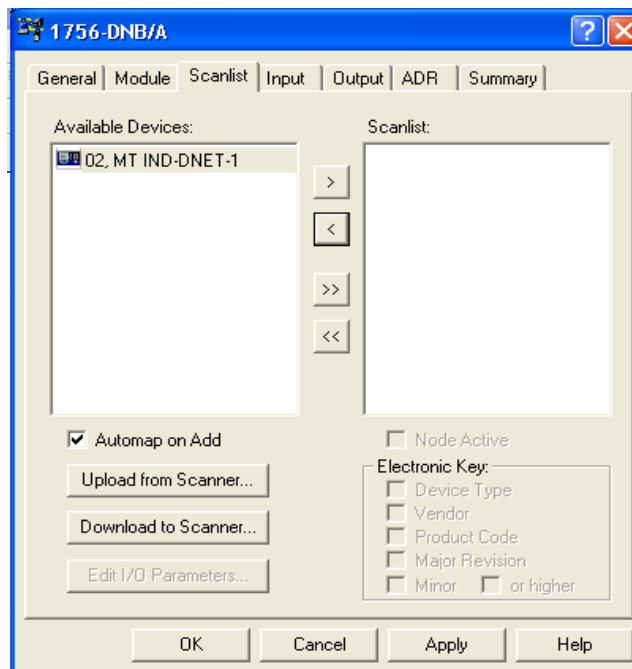

Figure 3-18: Scanner Properties Dialog: Scanlist Tab Showing
7. Click the Scanlist tab in the properties dialog box. The view shown in Figure 3-18 will appear.